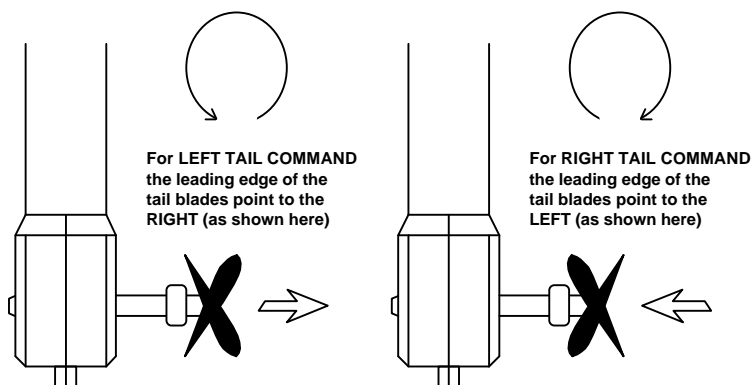

Figure 3 Getting tail servo operating sense right.
- The tail rotor servo operating sense has been correctly set in the transmitter. **Failure to do this will cause an uncontrollable pirouette on take-off. Beginners who are in any doubt on this aspect of the set-up should seek advice.** The correct operating sense can be established by looking at the tail rotor blades. With a left tail rotor command held on, the leading edge of the tail blades are pointing to the right (see Figure 3)